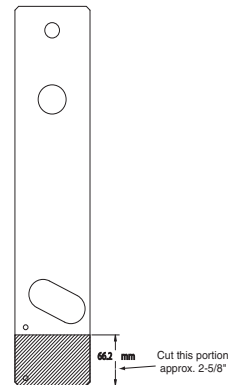

Fig. 12 - Header Plate Cut-Off
6. Cut bottom portion of **header plate**, just below the drain connections, see Fig. 12.
5. Cut bottom portion of **header plate**, just below the drain connections. See Fig. 12.